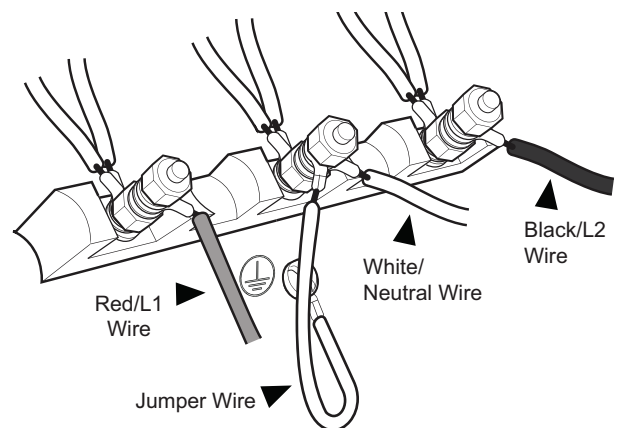

Figure 12: 3-Wire Connection
- Secure the neutral, grounded wire of the supply circuit, to the center stud (silver colored) of the terminal block (see *Figure 12*).
- Remove the green ground screw located beneath the terminal block. Screw one end of the included white jumper wire to the chassis beneath the terminal block with the green ground screw. Secure the other end of the wire to the center stud of the terminal block with nut, as shown in *Figure 12*.